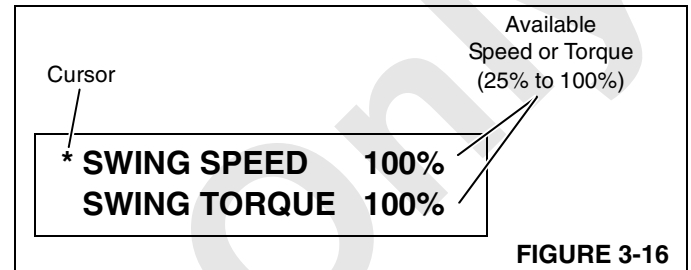

FIGURE 3-16
2. Access diagnostic screens (Figure 3-16):